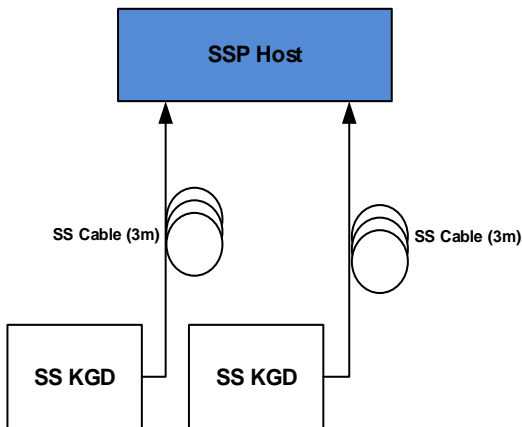

Figure 11-3: Modified Host Interoperability Interim Tree (with two 3.0 KGD's)
- Connect a SS Asmedia KGD and TI KGD at root port (see Figure 11-3)